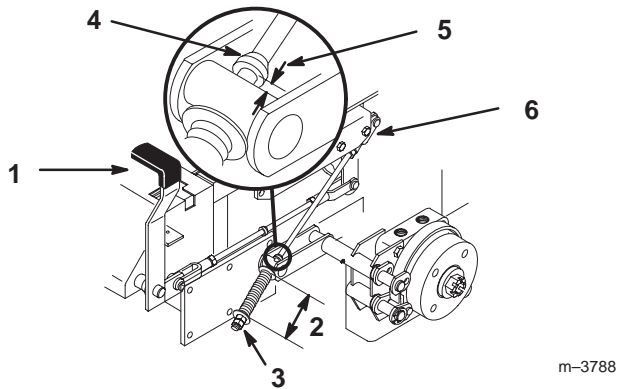

Figure 73
2. Measure the length of the spring. The measurement should be 2-3/4 inch (70 mm) between the washers (Fig. 73).
3. If an adjustment is necessary, loosen the jam nut below the spring and tighten the nut directly below the yoke (Fig. 73). Turn the nut until the correct measurement is obtained. Tighten the two nuts together and repeat on the opposite side of the unit.
6. Measure the distance between the trunnion roller and the collar on the brake rod. The measurement should be 3/16-1/4 inch (5-7 mm) (Fig. 73).
7. If an adjustment is necessary, loosen the jam nut directly below the yoke. Turn the bottom rod until the correct measurement is obtained (Fig. 73). Tighten the jam nut at the yoke.